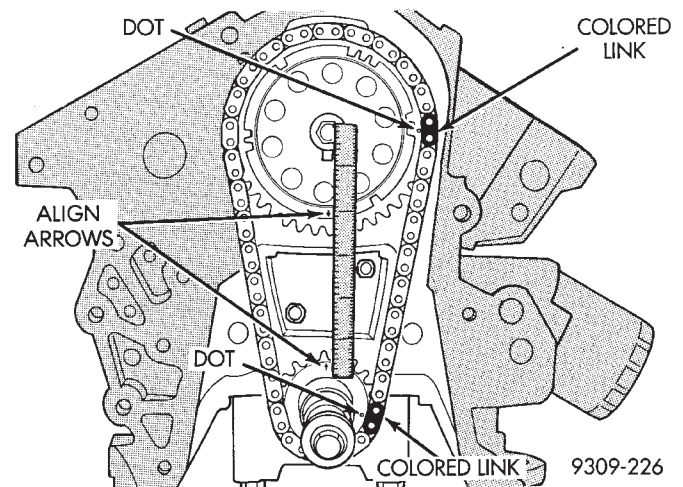

Fig. 5 Alignment of Timing Marks
(7) Position a new crankshaft sprocket on the shaft, install sprocket with suitable tool and mallet. Be sure sprocket is seated into position.
(8) Rotate crankshaft so the timing arrow is to the 12 O'clock position.
(9) Place timing chain around camshaft sprocket and place the timing mark to the 6 O'clock position.
(10) Align the dark colored links with the dot on the camshaft sprocket, place timing chain around crankshaft sprocket with the dark colored link lined up with the dot on the sprocket and install camshaft sprocket into position.
(11) Using straight edge to check alignment of timing marks (Fig. 5).
(12) Install camshaft bolt and washer. Tighten to 54 N•m (40 ft. lbs.).
(13) Rotate crankshaft 2 revolutions. Timing marks should line up. If timing marks do not line up remove cam sprocket and realign.
(14) Check camshaft endplay. With new thrust plate specification is .0127 to .304 mm (.005 to .012 inches.). Old thrust plate specification is .31 mm (.012 inch.) maximum. If not within these limits install new thrust plate.
(15) Install timing chain snubber. Tighten retaining screws to 12 N•m (105 in. lbs.). **These bolts are 20mm long for this model year, they should not be interchanged with previous year engines.**